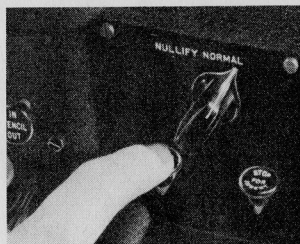

Fig. 2
5. Press "Feed Out Tape" button on right of typewriter (Fig. 2) and hold until approximately six inches of tape feed out of the Perforator. This six-inch strip is called a "leader."